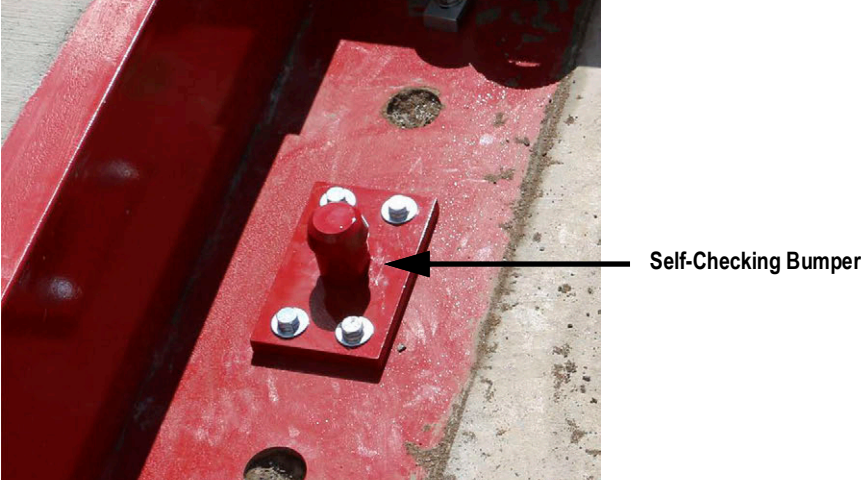

Figure 5-4. Self Checking Bumper
1. Bolt in the self-checking bumper (PN 201226) as shown in Figure 5-4 torquing bolts to 75 ft-lb.